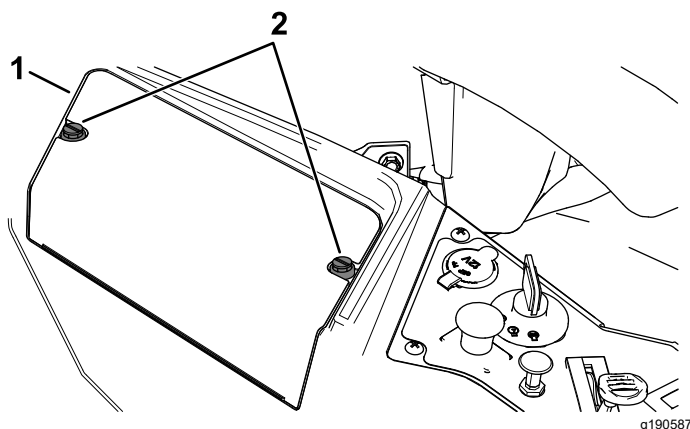

Figure 44
3. Loosen the 2 fasteners on the battery cover counterclockwise 1/4 turn, and remove the battery cover (Figure 44).
6. Install the battery cover by pushing down and tightening the 2 fasteners clockwise (Figure 44).